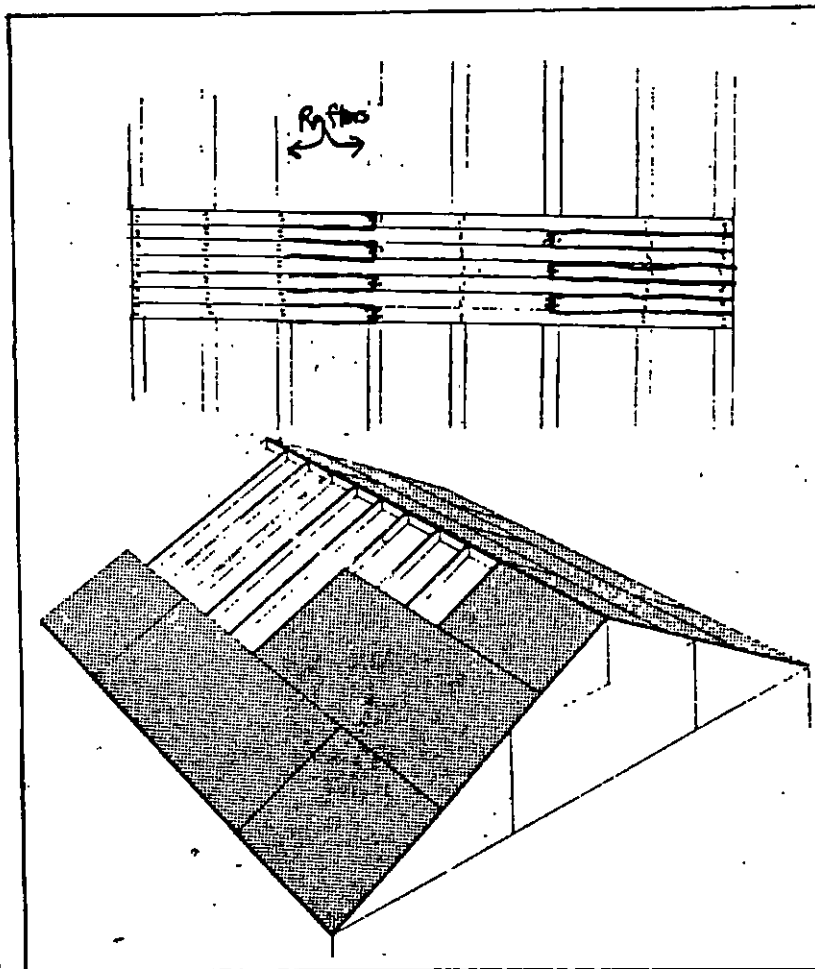

FIGURE 54
--Always stagger joints of the planking for maximum strength. (See Fig.54)